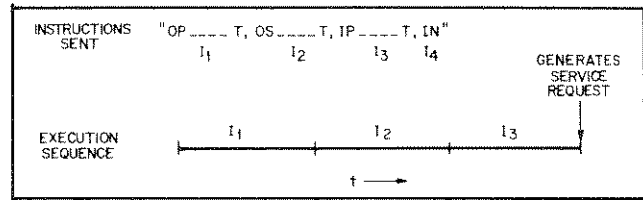

Figure 5-4. Interrupt Now Instruction in Serial Mode
2. The Interrupt Now (IN) instruction runs sequentially in the serial mode and sets service request when it completes. Since most instructions do not set service request in the serial mode, IN can be used as a completion indicator. Figure 5-4 illustrates an IN programmed as the fourth instruction in a sequence. When the IN instruction is encountered, it will set service request indicating that the previous instructions have completed. Use of the IN instruction is described in greater detail in paragraphs 5-187 through 5-200.